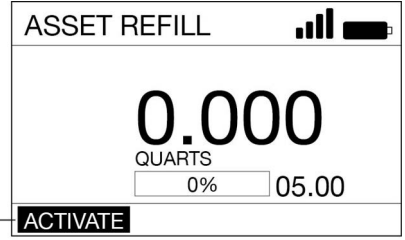

FIG. 29
- Press the ENTER button to select ACTIVATE (E) (FIG. 29).